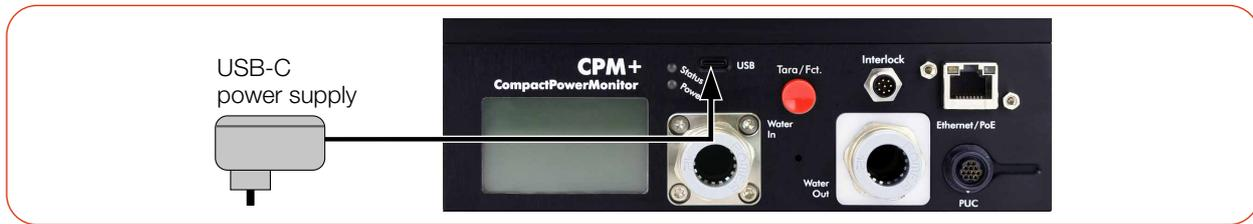

Fig. 7.2: Power supply via USB-C power supply, display of the measured values on the device
- ▶ Connect the USB-C power supply according to Fig. 7.2 on page 26.